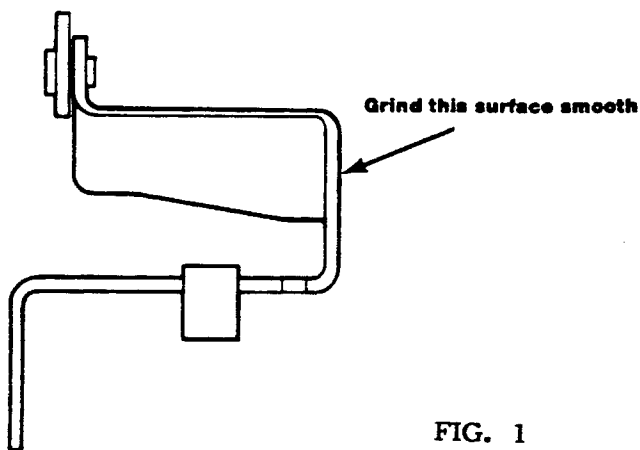

FIG. 1
**DOUBLE-NUT METHOD:** Install two (2) nuts approximately 1/2 way down onto the stud and lock them together. Using suitable wrench, turn the lower nut to remove the stud and the upper nut to install the new stud.
22. Referring to Fig. 1, connect the following hoses, vacuum lines and electrical wires to the Weber carburetor:
- 23. Install the supplied air filter adaptor onto the Weber carburetor using the four (4) allen-bolts. Tighten the bolts to 8 ft/lbs.
8. Loosen and remove the four (4) nuts that secure the carburetor to the intake manifold. Remove the carburetor and insert a clean rag into the intake ports to prevent dirt and gasket material from entering the engine.
9. Fox Only: Remove the throttle lever from the original carburetor. Separate the lever halves at the spot welds and grind the welds smooth. (See Fig. 1)